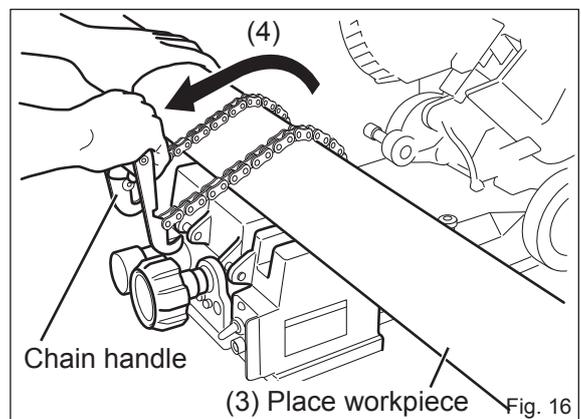

Fig. 16
- (3) Place the workpiece in the V-shaped groove on the vice. (Fig. 16)
- (4) Pull the chain handle back over the workpiece and hook to the base of the vice (Fig. 16)